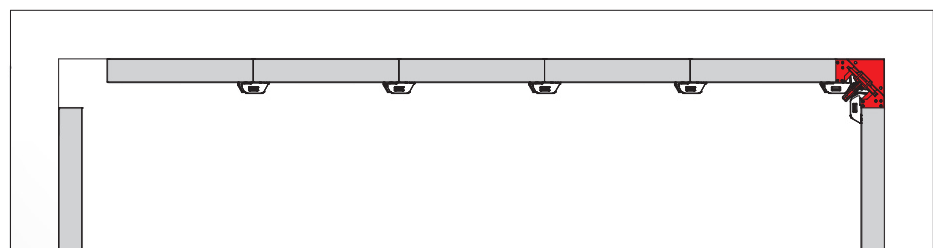

Fig. 41.3
3. Lift the ST stripping corners out of their position, then strip the panels (Fig. 41.3).